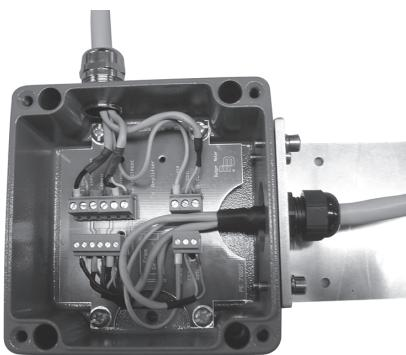

Figure 5
3. After completion of the wiring operation, the assembly should look like Figure 5.